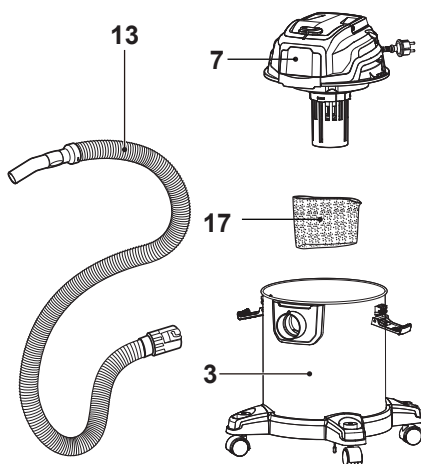

Fig. 4 Wet vacuuming
- with foam sleeve (17) for wet vacuuming (Fig. 4).